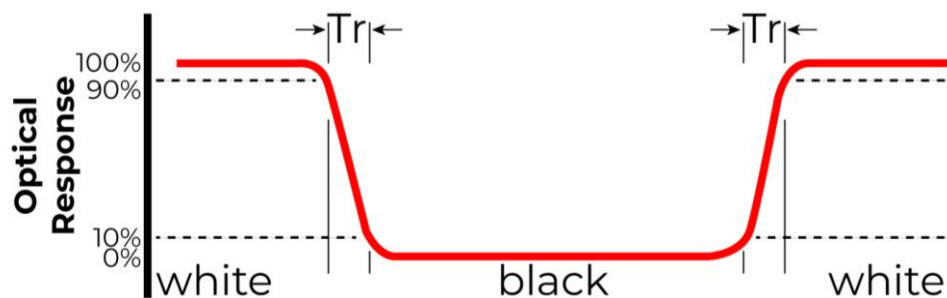

Figure 2. The definition of response time
| Response Time              | Tr+Tf    | $\theta=0^\circ$$\phi=0^\circ$Ta=25 °C | -     | 27    | 45    | ms                | FIG 2. | 4, 7 |
**Note 1.** Contrast Ratio (CR) is defined mathematically as below, for more information see Figure 2.
**Note 2.** Surface luminance is the LCD surface from the surface with all pixels displaying white. For more information see Figure 2.
**Note 3.** The uniformity in surface luminance  $\delta$  WHITE is determined by measuring luminance at each test position 1 through 5, and then dividing the minimum luminance of 5 points luminance by maximum luminance of 5 points luminance. For more information see Figure 2.